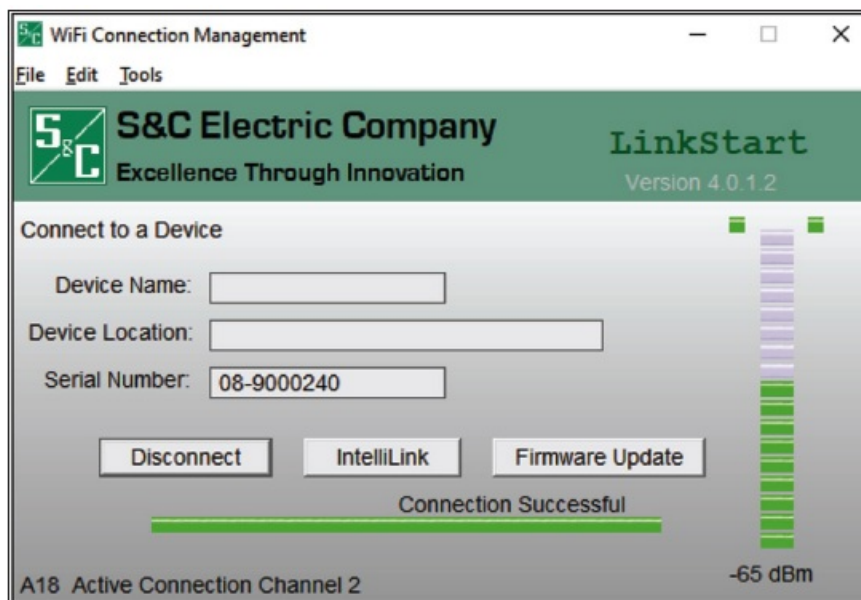

Figure 16. The connection successfully completed indication.
- **STEP 5.** When the connection is successful, click on the Firmware Update button. See Figure 16.